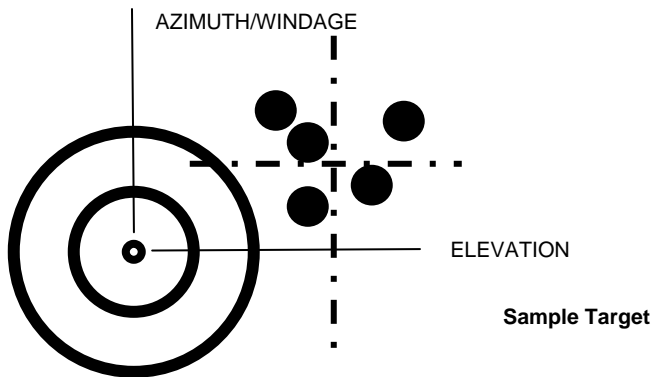

Figure 2-6: Adjust azimuth/windage or elevation
4. Measure the amount of movement required left or right (Azimuth or windage) to move the center of the POI group onto the aimpoint in mm or inches (Figure 2-6).
6. Measure the amount of movement required up or down (elevation) to move the center of the POI group onto the aimpoint in mm or inches (Figure 2-6).